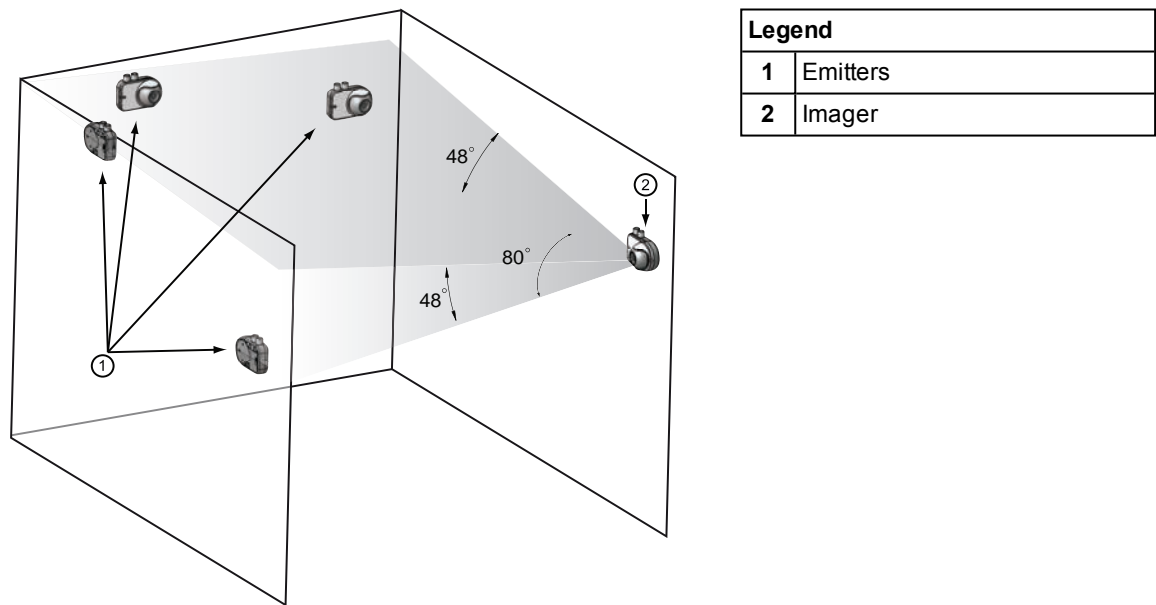

Figure 4-20: Alignment guidelines for the 90° Imager to Emitter
1. Switch ON and insert the appropriate laser alignment tool (1) into the alignment hole (2).
2. Use the laser tool to move the optical sphere (3) until the laser beam is pointing at a position in the gravitational center of all Emitters in the system as shown in 4.2 and Figure 4-20.